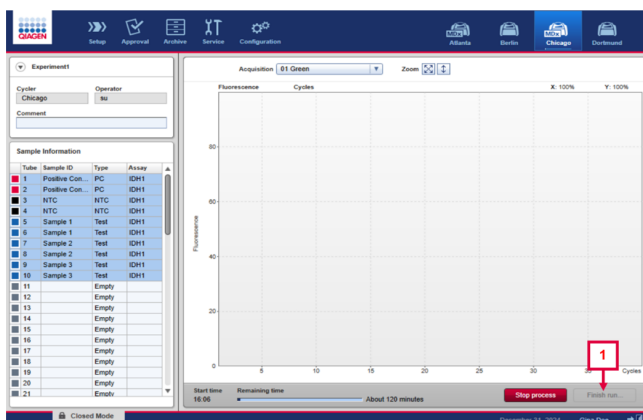

Figure 14. An example of “Cycler Environment” window. Box 1 shows the **Finish run** button.
13. Upon completion, click **Finish run** to release and approve the run (Figure 14, indicated by box 1).